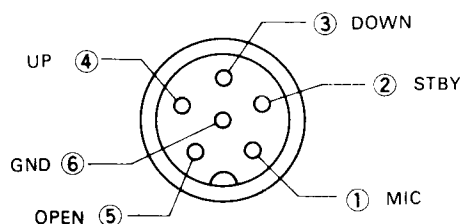

Fig. 23 MIC terminals
- Connect MIC connector as shown in Fig. 23.